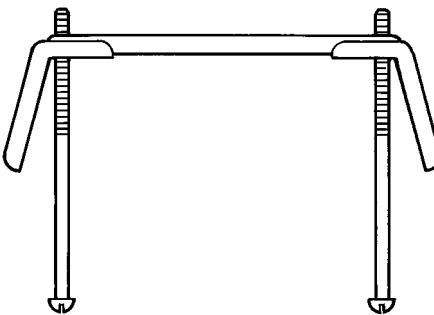

Fig. 3 — Toggle Bolt Assembly for Mounting Applications Without Junction Box
5. For mounting applications without a junction box, use toggle bolt assembly as shown in Fig. 3. Package 37HS900019 contains this toggle bolt assembly.